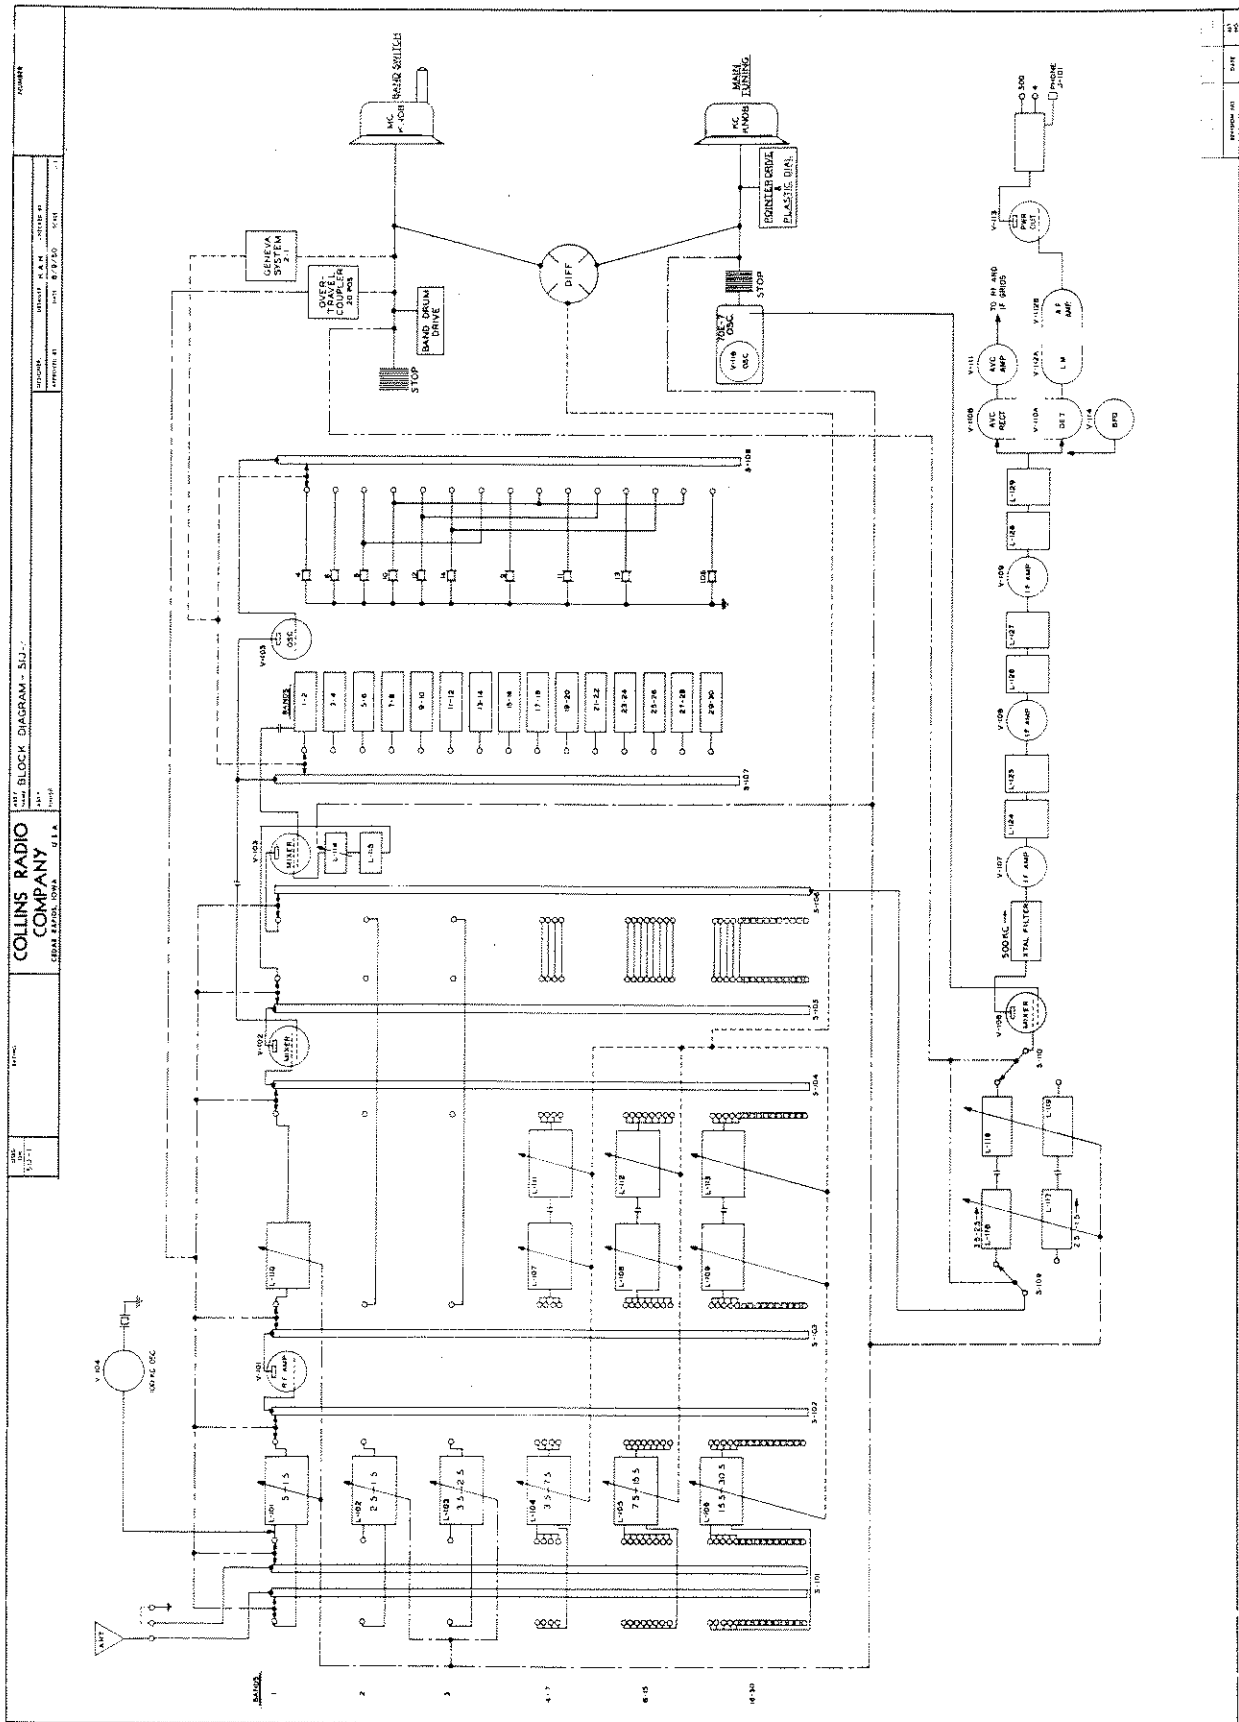

Figure 4-1 Band Change and Tuning System, Block Diagram
4.1.1. BAND CHANGE. - Collins 51J-2 Receiver covers the frequency range of 0.5 to 30.5 mc in 30 bands: 0.5 to 1.5, 1.5 to 2.5, and so on up to 30.5 mc. Each band is one megacycle wide. Circuits affected by band changes are the r-f amplifier grid, first, second, and third mixer grids, crystal selector, and crystal harmonic tuning circuits. The third mixer is switched in only on band 1 (.5 to 1.5 mc). See figure 4-1.
4.2.2. RADIO FREQUENCY AMPLIFICATION. - Refer to the block diagram, figure 4-1. One stage of radio frequency amplification is (V101) used on all bands. A type 6AK5 miniature r-f pentode is employed in this stage because of its low noise and good sensitivity characteristics at high frequencies. The antenna is transformer coupled to the grid of the r-f stage on all bands, with a resulting antenna